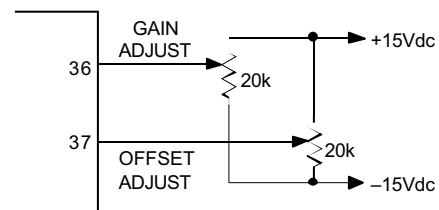

Figure 2. External Adjustment
1. Offset and gain adjustments are made by connecting two 20k trim potentiometers as shown in Figure 2.